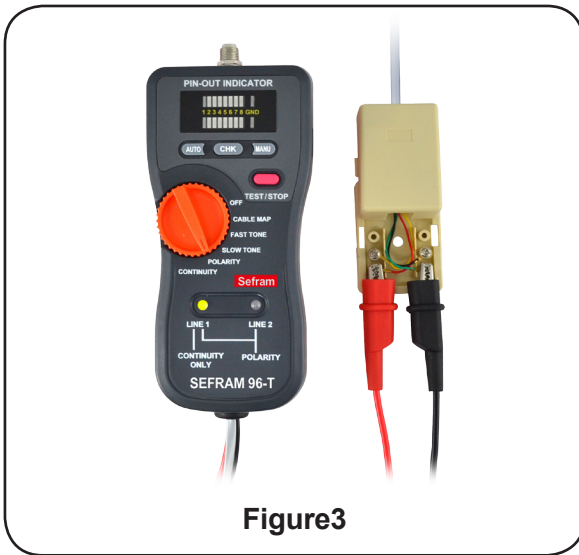

Figure3
1. Connect the RED test lead to the side of one line and the BLACK lead to the side of another line. (See Figure 3)
1. Connect the RED test lead to the RING SIDE of the line and the BLACK to the TIP. (See Figure 3)